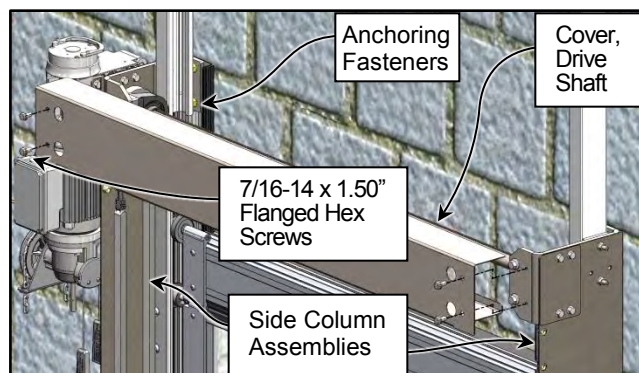

Figure 31
11. Inspect for loose or worn mounting anchors on the Head Assembly. (See Figure 31)